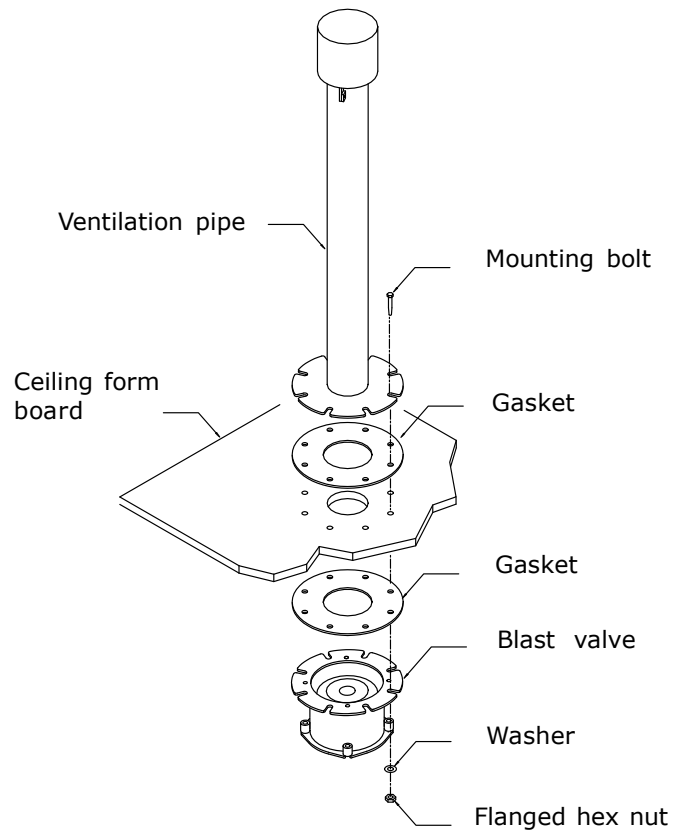

Figure G-5
4. Air ventilation 4-inch, figure G-5.
3. Using the 8 each  $\frac{1}{2}$  inch X 3-in length bolts, sandwich the assembly together as shown in figure G-5.